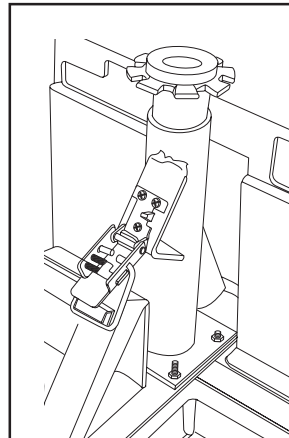

Figure 16A. Toggle Latch (Unlatched)
5. Latch the toggle latch. See figure 16A.